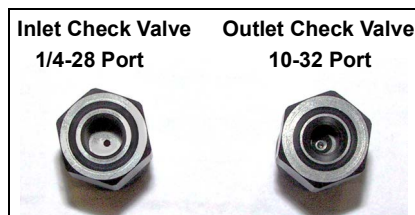

Figure 10-2. Check Valve Ports
**NOTE** The *inlet* check valve housing has a 1/4-28 port. The *outlet* check valve housing has a 10-32 port (see Figure 10-2).